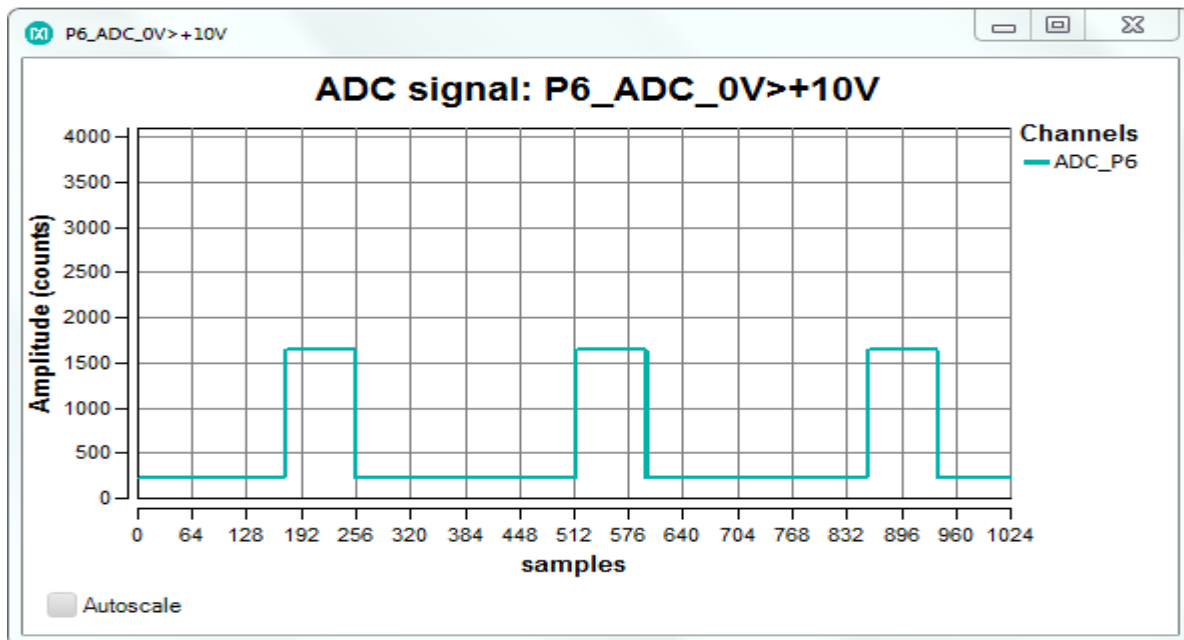
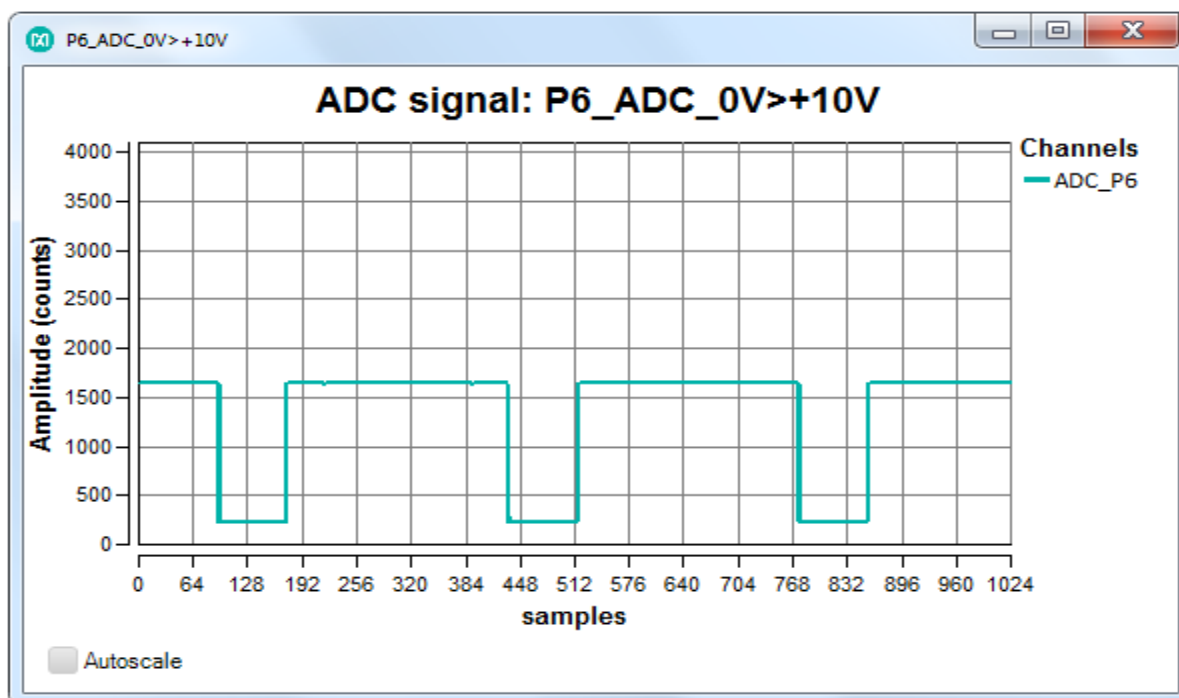

Figure 35. PWM width as the potentiometer set to a low position.
Figure 36. PWM width as the potentiometer set to a high position.
3. In the drop-down menu on the top right, select **P6_ADC_0V>+10V** and click the Get plot box button. Another plot window opens for ADC on P6. Observe PWM signal in the ADC plot window. Adjust the pulse-width by turning the potentiometer to the low and high positions and observe the width of the PWM waveform as shown in **Figure 35** and **Figure 36**.